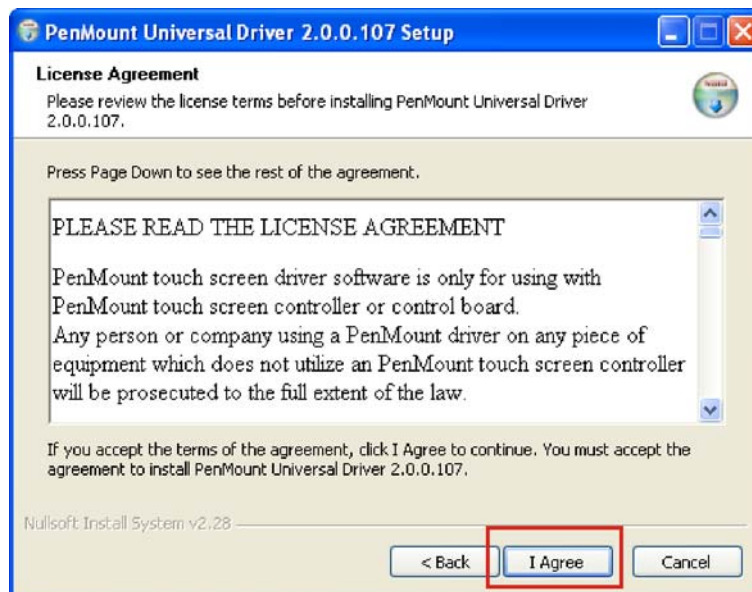

Figure 6-24: Start Touch Panel Driver Installation
Step 6: The license agreement appears (**Figure 6-24**).